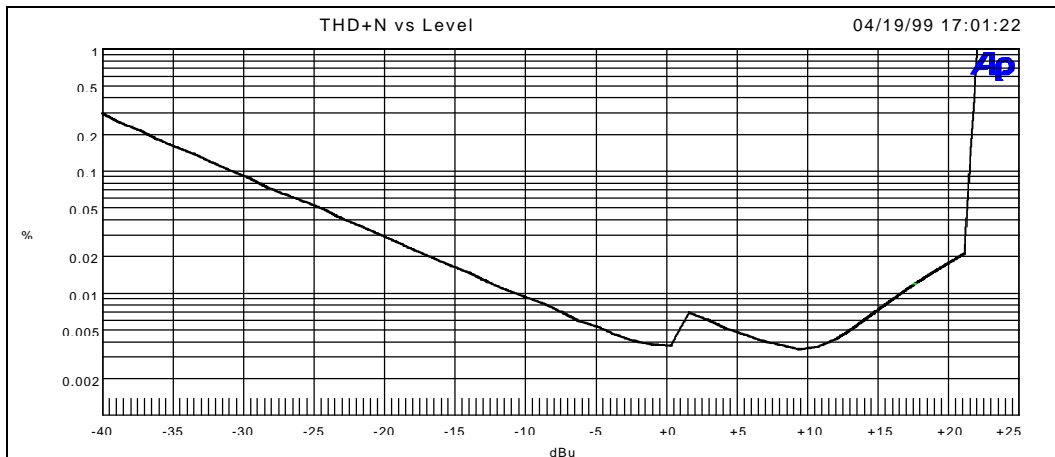
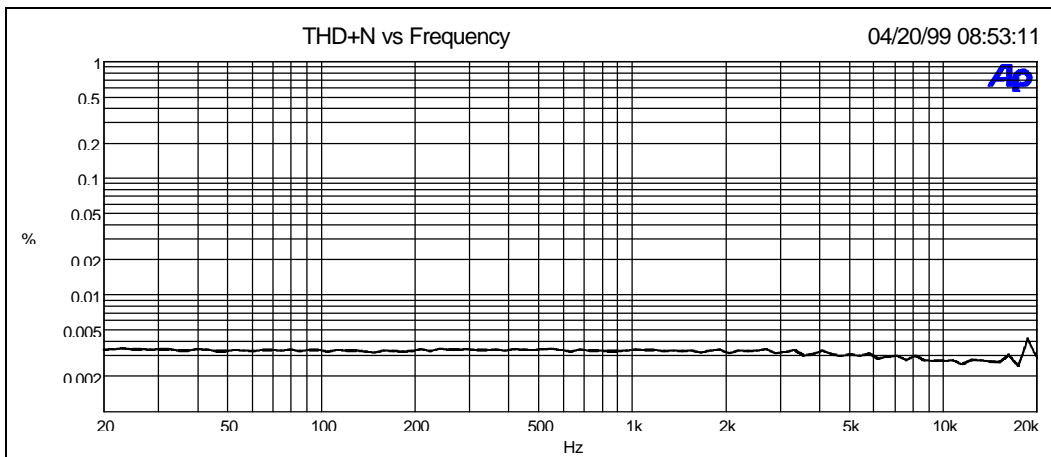

Figure 2 THD+N [%] as a function of the input level [dBu] [4], $f = 1$ kHz
Figure 3 THD+N [%] as a function of the frequency [Hz] [4], input level = +10 dBu
6.1 THD+N [4] fig. 2 , fig. 3 20 Hz ... 20 kHz < 0.01 % @ +10 dBu